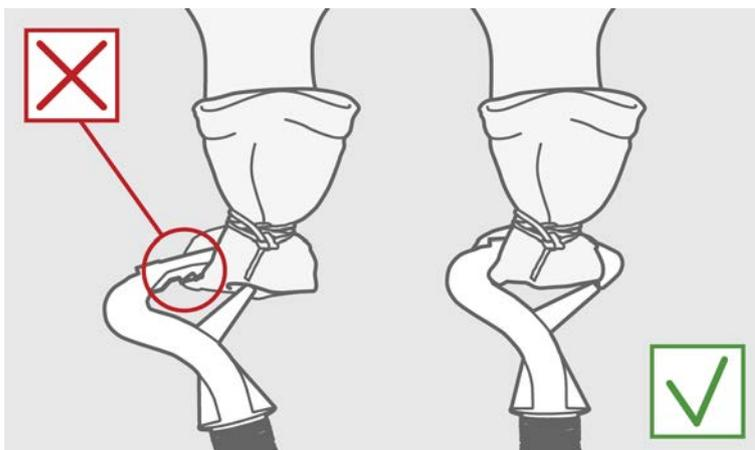

Figure 6 Unwinder Clip Is Level with the Unwinder Bottom Plate
- If the clip is bent up, bend it gently back to level position as shown in Figure 6 (page 24).